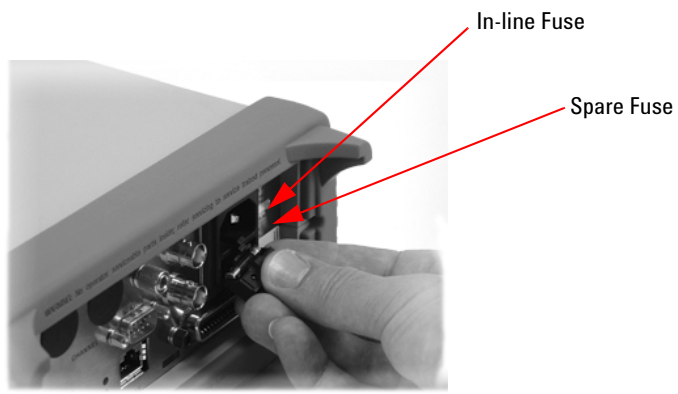

Figure 5-3 Replacing the fuse
- 1 Slide the fuse holder assembly from the rear panel as shown in Figure 5-3.
- 2 Install the correct fuse in the “In line” position as shown in Figure 5-3. (A spare fuse can be stored in the fuse holder assembly.)